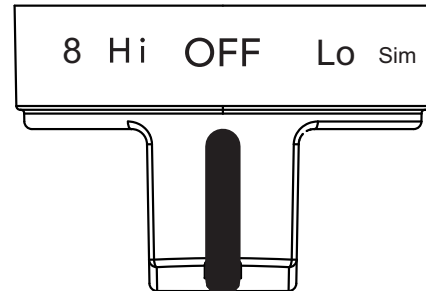

Figure 5: Single element knob
2. Push in and turn the surface control knob in either direction (Figure 5) to the desired setting (refer to the “Suggested radiant surface element settings” in Table 1).
Start most cooking operations on a higher setting and then turn to a lower setting to finish cooking. The surface control knobs do not have to be set exactly on a particular spot. Use the graphics provided as a guide and adjust the control knob as needed (see Figure 5).